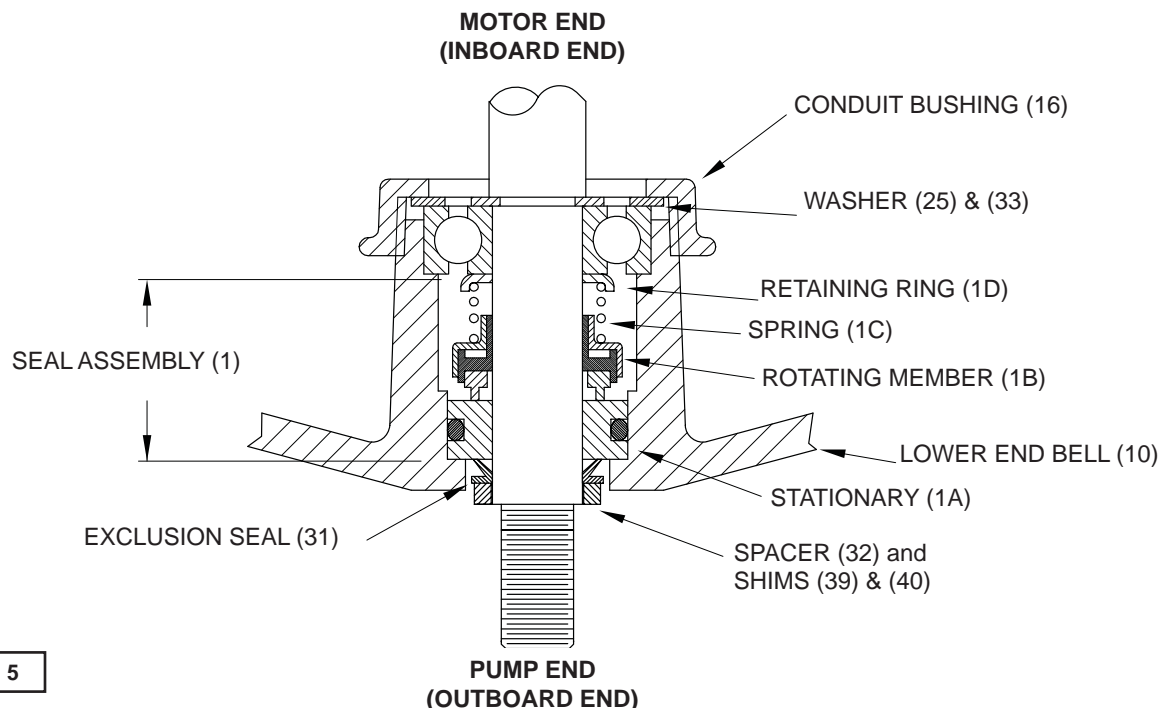

FIGURE 5
Seal - Remove rotating member (1a), spring (1c) and retaining ring (1d) from shaft. (see Figure 5). Examine all seal parts and especially contact faces. Inspect seal for signs of wear such as uneven wear pattern on stationary members, chips and scratches on either seal face. **DO NOT** interchange seal components, replace the entire shaft seal (1).